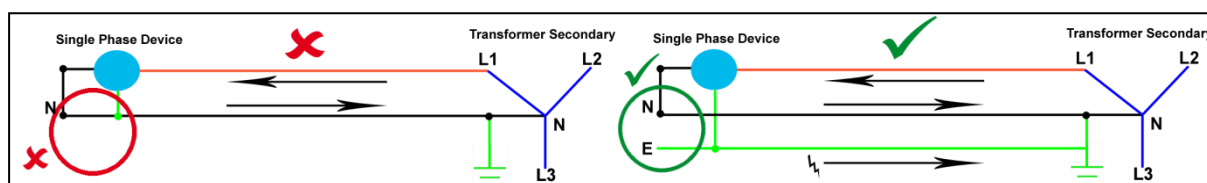

Figure 2 - Separation of Earth and Neutral Conductors
- Separation of Earth and Neutral Conductors^{vi}. Although these two conductors are for example both joined together on the star side of a supply transformer, the Neutral is a current carrying conductor, while the earth conductor is for protection only and should be left current free^{vii} (Figure 2). Using the same conductor for both E and N will reduce the effectiveness of any surge protection installed in the system. Accidental disconnect of the conductor, if a shared conductor is used for E and N, a single phase 110 V or 220 V systems might experience a power increase up to 240 V or 400 V, which will fry your equipment.